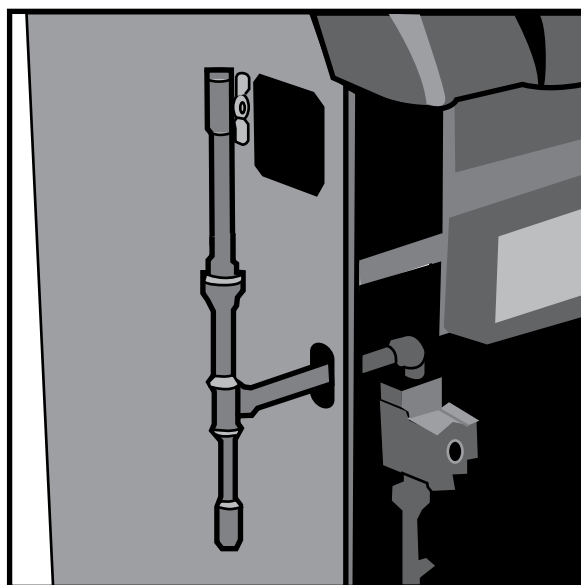

Figure 5-a
2. Thread a $\frac{3}{4}$ " x $1\frac{1}{2}$ " nipple, a 90° street elbow, or a Honeywell flange onto the gas valve and pipe through the slot in the left jacket panel (Figure 5-a). In Canada, close nipples and street ells are not approved for use as gas piping.
3. Pipe through the left jacket panel, and complete drip leg as shown (Figure 5-a).